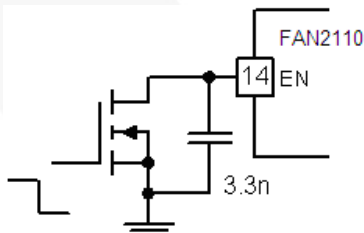

Figure 30. Enabling with External Control
FAN2110 has an internal pull-up to the enable (EN) pin so that the IC is enabled once  $V_{CC}$  exceeds the UVLO threshold. Connecting a small capacitor across EN and AGND delays the rate of voltage rise on the EN pin. The EN pin also serves for the restart whenever a fault occurs (refer to the *Auto-Restart* section). If the regulator is enabled externally, the external EN signal should go HIGH only after  $V_{CC}$  is established. For applications where such sequencing is required, FAN2110 can be enabled (after the  $V_{CC}$  comes up) with external control, as shown in Figure 30.